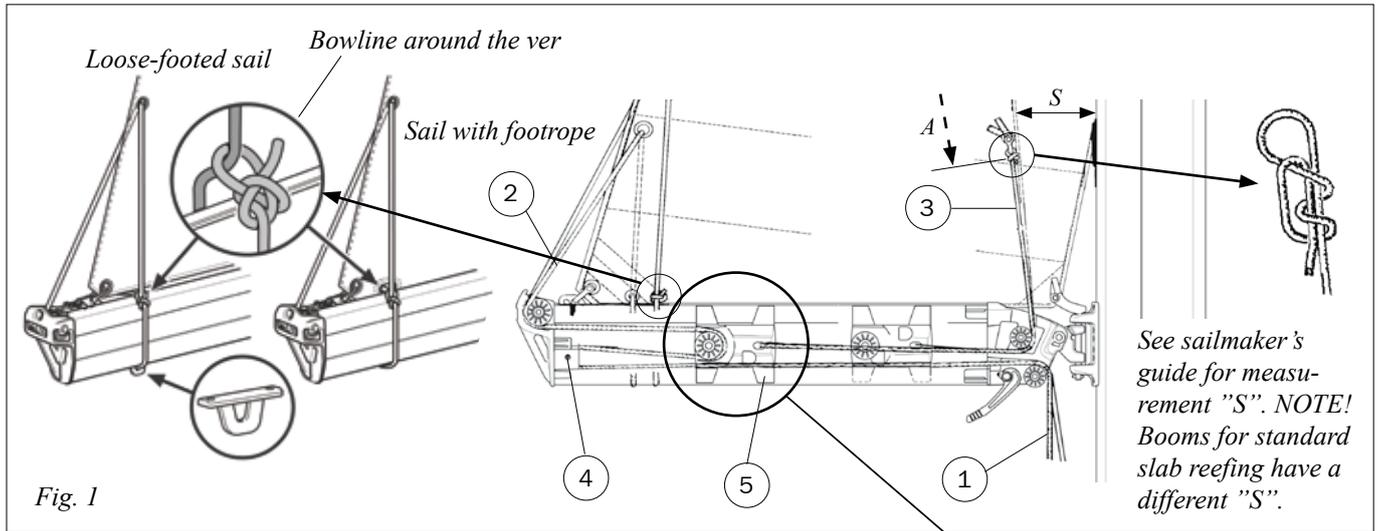

Fig. 1
7. Fit the shaft with its two sheaves in the forward upper space in the boom inboard end fitting (see fig. 1). Secure the shaft with the black retaining plug. Ensure that the pilot lines run correctly round their respective sheaves.
8. Fit the shorts shafts and the sheaves in the holes ④ in the flanges of the boom outboard end fitting. The shafts will be locked by the boom extrusion when the outboard end fitting is mounted.
7. Take the aft end of the starboard long reefing line ② that is taped to the boom section, and feed it up through the sheaves ④, forwards and up through the SLR block ⑤, then aft out through the starboard boom end sheave slot (see fig. 1). Make a stopper knot in the end.
8. Push the SLR block into the boom, at the same time pull the shorter reefing line ③ at the forward end. Check the long line ② that runs between boom end fittings is not trapped between SLR car and the boom side wall.
9. Repeat action 7 and 8 with the port side long reefing line ②.
1. Secure the reefing line ① either in the cockpit or where it exists the boom inboard end fitting.
2. Pull the reefing line ② until then the SLR block ⑤ is stopped internally by the outer boom end-fitting. Secure the line temporarily.
3. Tighten the reefing line ③. Where it exits the upper surface of the boom inboard end fitting, make a felt pen mark.
4. Free the reefing line ①. Pull out about 1 m of reefing line ③.
5. Make a second mark on the reefing line ③ A mm nearer the SLR block than the first mark. The dimension "A" for each boom type is listed in table 1.
6. Tie on the shackle at the second mark with the knot that is showed in fig. 1. Pull the knot hard. The second mark A should be visible just below the knot.
1. Connect the shackle on the reefing lines ③ to respective sides the sail.
2. Slacken the reefing lines ②, feed through the respective reef cringles, and secure around the boom (See fig. 1). If the sail has a footrope running in the boom's sail groove, it must have cringles or slits to allow the reefing lines ② to be feed through before being secured around the boom. The holes must be positioned correctly to ensure effective reefing. If the sail is loose-footed, the reefing lines are free to move. They can be held in the correct position a slide in the boom's underside track. (For suitable Seldén slide, see table 1.)
3. Hoist the sail and check that there is some slack in the front reefing lines ③.
6. Cut surplus line on the reefing line ③ under the shackle. Leave a 30 mm tail outside the knot.